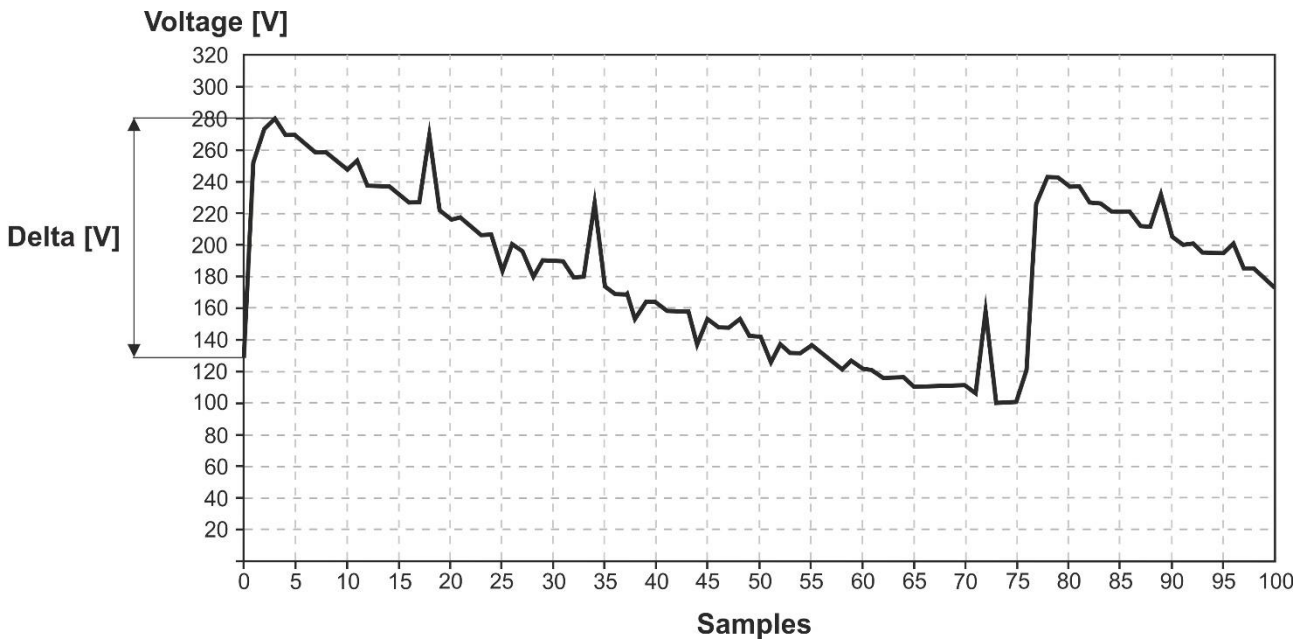

Fig. 92: Fast voltage transient analysis
2. The instrument always measures **1000 samples of 1 $\mu$ s** of the signal which then subsamples according to the observation window set and stores **only 100** (see Fig. 92) in order to save internal memory (for example, if Window = 100 $\mu$ s  $\rightarrow$  spike detected and 100 values available with 1 $\mu$ s resolution; if Window = 200 $\mu$ s  $\rightarrow$  spike detected and 100 values available with 2 $\mu$ s resolution and so on)
3. The instrument stores a **Delta [V]** equal to **the difference between the instantaneous value of the pre-spike voltage and peak value of the spike** (see Fig. 92)